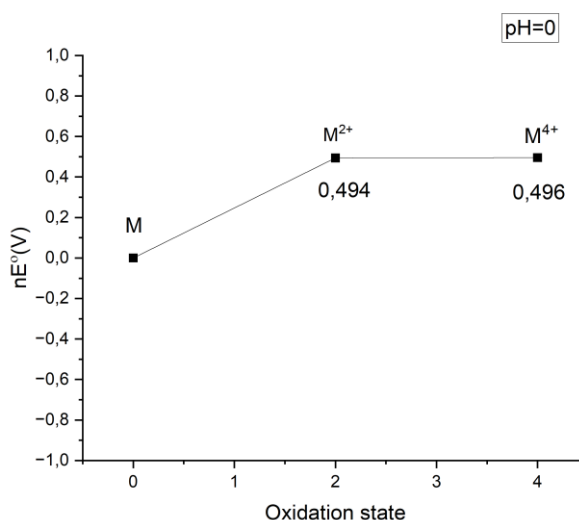

Figure 1. Frost diagram of the metallic element **M** at $\text{pH}=0$.
3. Simplified Frost diagrams for metal **M** in an acidic environment ($\text{pH} = 0$) are provided in the figure 1. Calculate the standard electrode potentials $E^\circ (\text{M}^{2+}/\text{M})$ and $E^\circ (\text{M}^{4+}/\text{M})$.